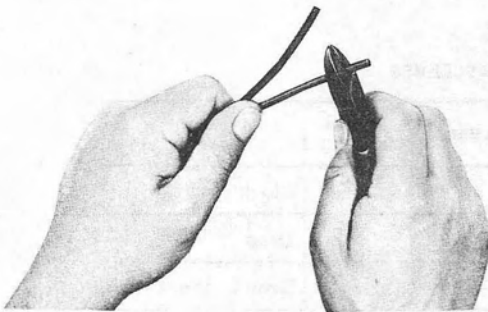

Fig. 2—Nicking Insulation
- (2) Nick insulation circumferentially 15/16-inch from end (Fig. 2). **Do not nick conductors.**